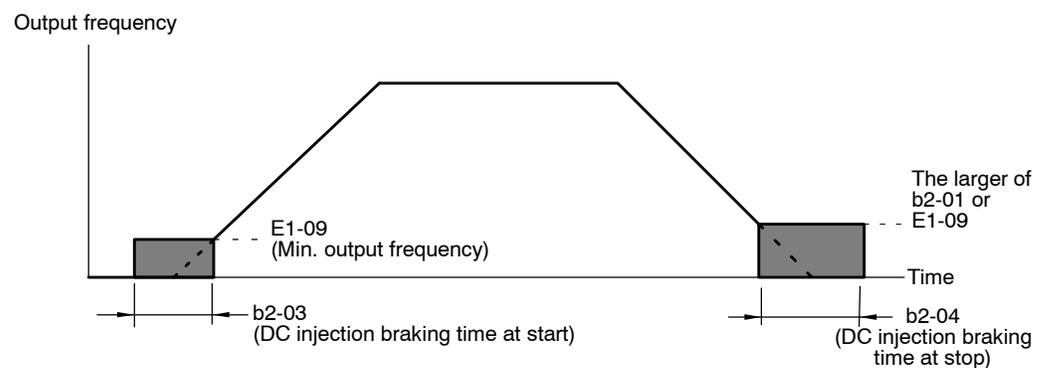

Fig 7.18 DC Injection Braking Timing Chart
- Figure 7.18 provides a timing chart of DC injection braking (initial excitation).